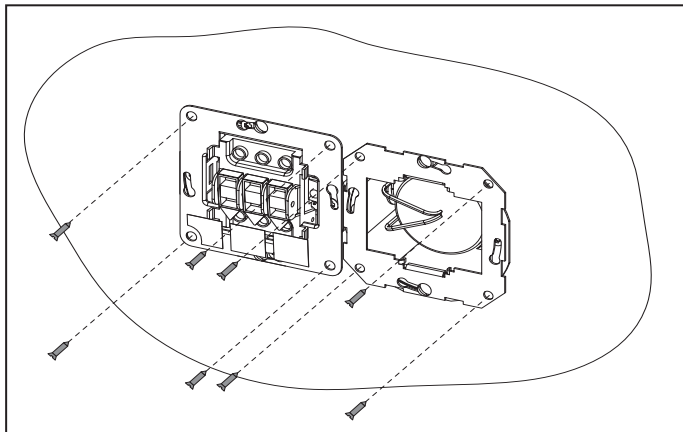

Fig. 20.
17. Install the power and control unit in the wall recess, Fig. 20.